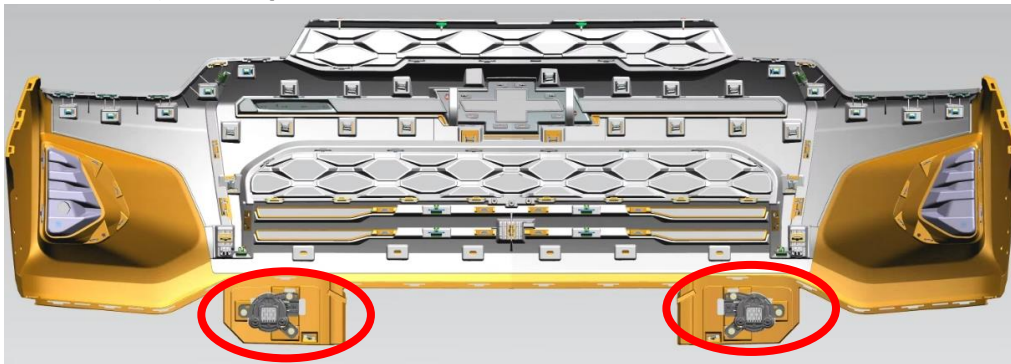

Figure 9 - Backside of Upper Front Fascia
- a. Remove [3] M4 Bolts (M7 Socket) per side and save light and hardware for AEV Chevy Front Bumper – Fig. 9